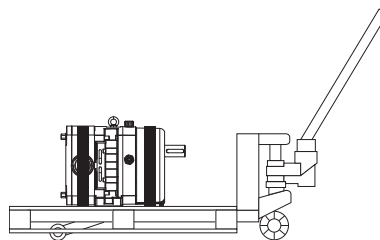

Fig. 40 Moving with pallet truck
- ▶ Ensure that the pump is adequately secured to the pallet, for example, with straps; see Fig. 40, "Moving with pallet truck," page 33.